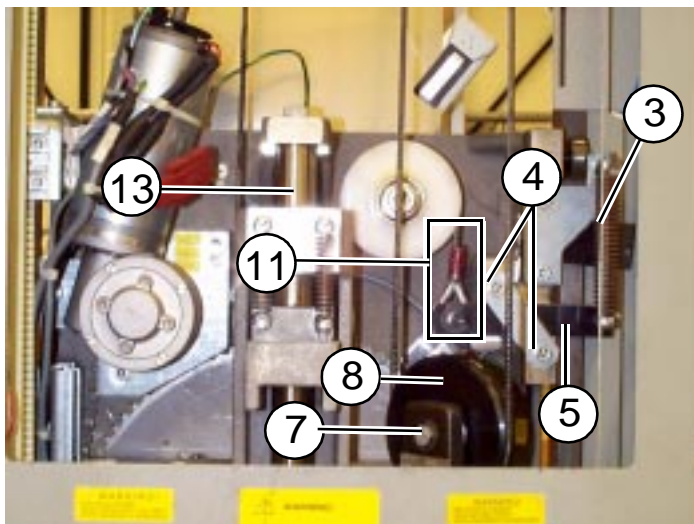

Fig. 9
4. Route the red marked end of the steel rope from left to right behind the pole (see Fig. 9, pos.13).
5. Attach the red marked end of the steel rope to the safety catch (see Fig. 9, pos.11). When doing this, the safety catch is not yet installed on the lifting carriage.
7. Reinsert the black cord wheel and the pin (see Fig. 9, pos.7 and 8).
10. Install the safety catch (see Fig. 9, pos.5).
11. Install the metal plate (see Fig. 9, pos.4).
12. Install the traction spring (see Fig. 9, pos.3).
1. Disconnect one of the motor wires from X887 and connect the digital multimeter (see Fig. 9, pos.12).